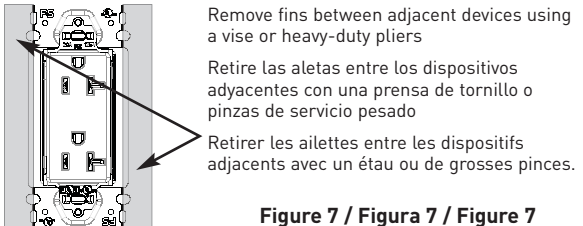

Figure 7 / Figura 7 / Figure 7
4. Remove the fins between adjacent devices. (See Figure 7.)
4. Retirer les ailettes entre les dispositifs adjacents. (Voir Figure 7.)